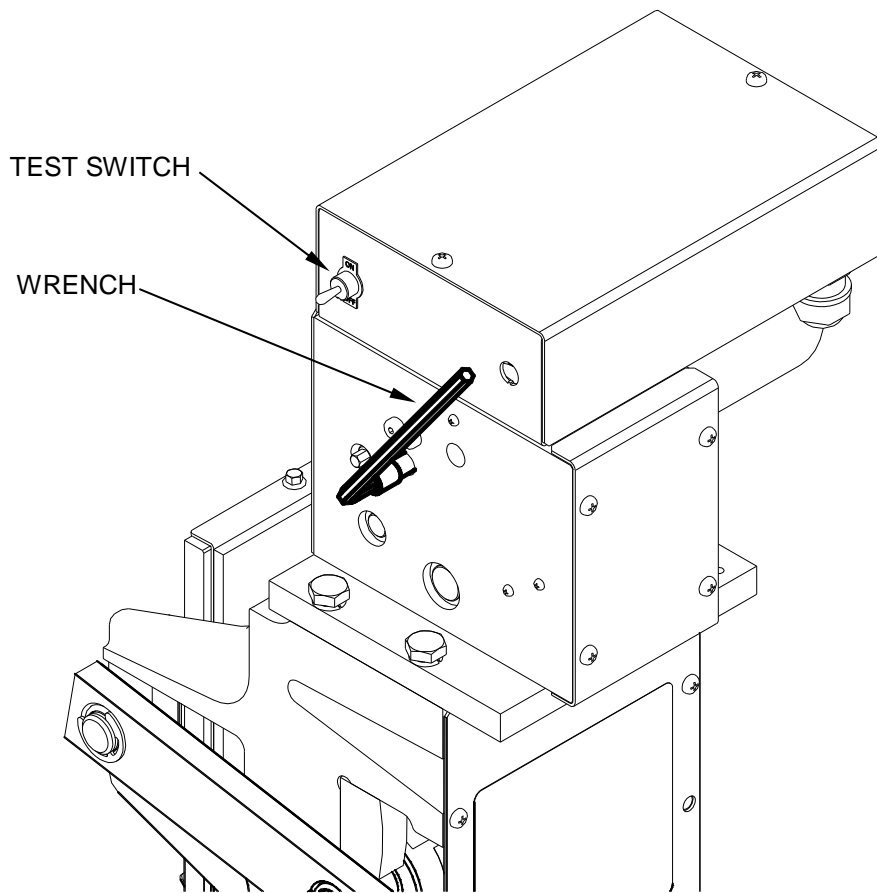
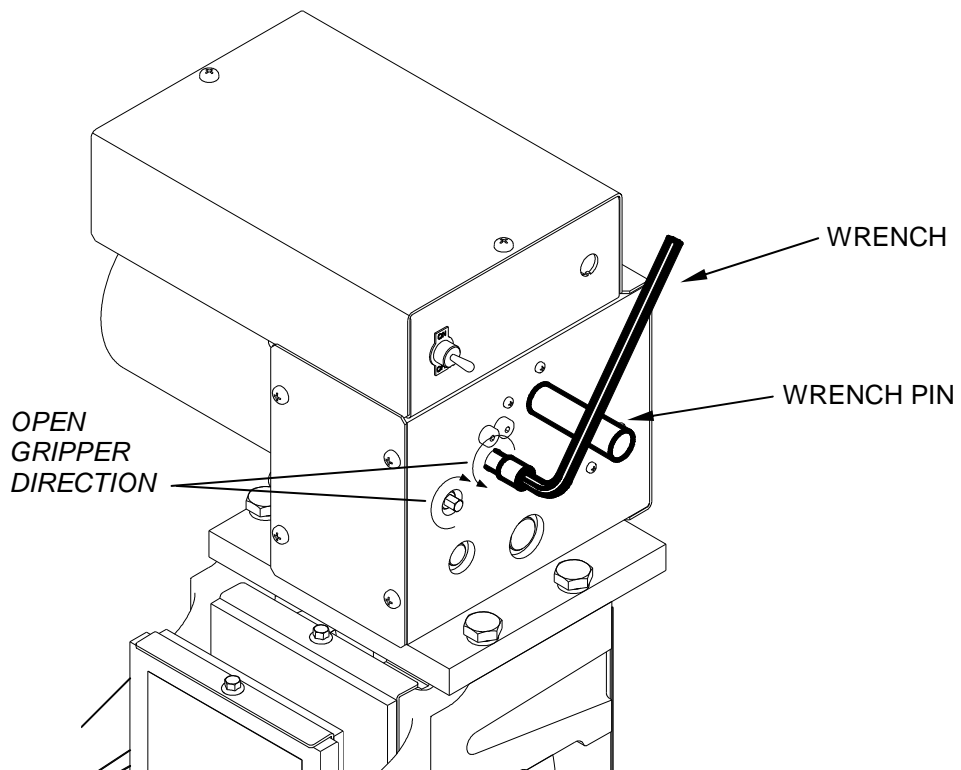

Figure 7
Figure 8 (RH unit shown; LH opposite)
2. Place the supplied 6 mm socket wrench on the upper hex shaft end on the side of the gearbox. See Figure 7 on p. 13. Turn the wrench in the direction shown in Figure 8 on p. 13 until the brake is loosened on the ropes and the car is free to move. (Note: for a left-handed Rope Gripper™, turn the wrench in the opposite direction from the illustration.) Or, turn the wrench on the lower hex, in the opposite direction from that of the upper hex.
3. Place the wrench pin into the side of the Rope Gripper. Slowly let the wrench run backwards until the wrench handle is resting on the wrench pin. See Figure 8 on p. 13.